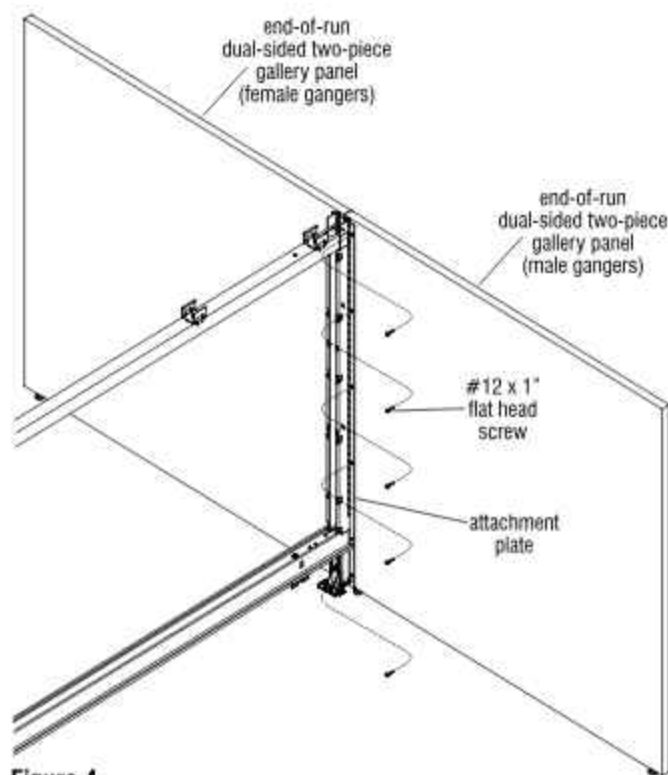

Figure 4
7. Secure the attachment plate to the second (male ganger) two-piece gallery panel using the #12 x 1" flat head screws into all remaining holes of the attaching plate (Figure 4).
9. Install Unite panel run tiles, top cap & base raceway trim. See Tile Installation section starting on page 46 (Figure 4).